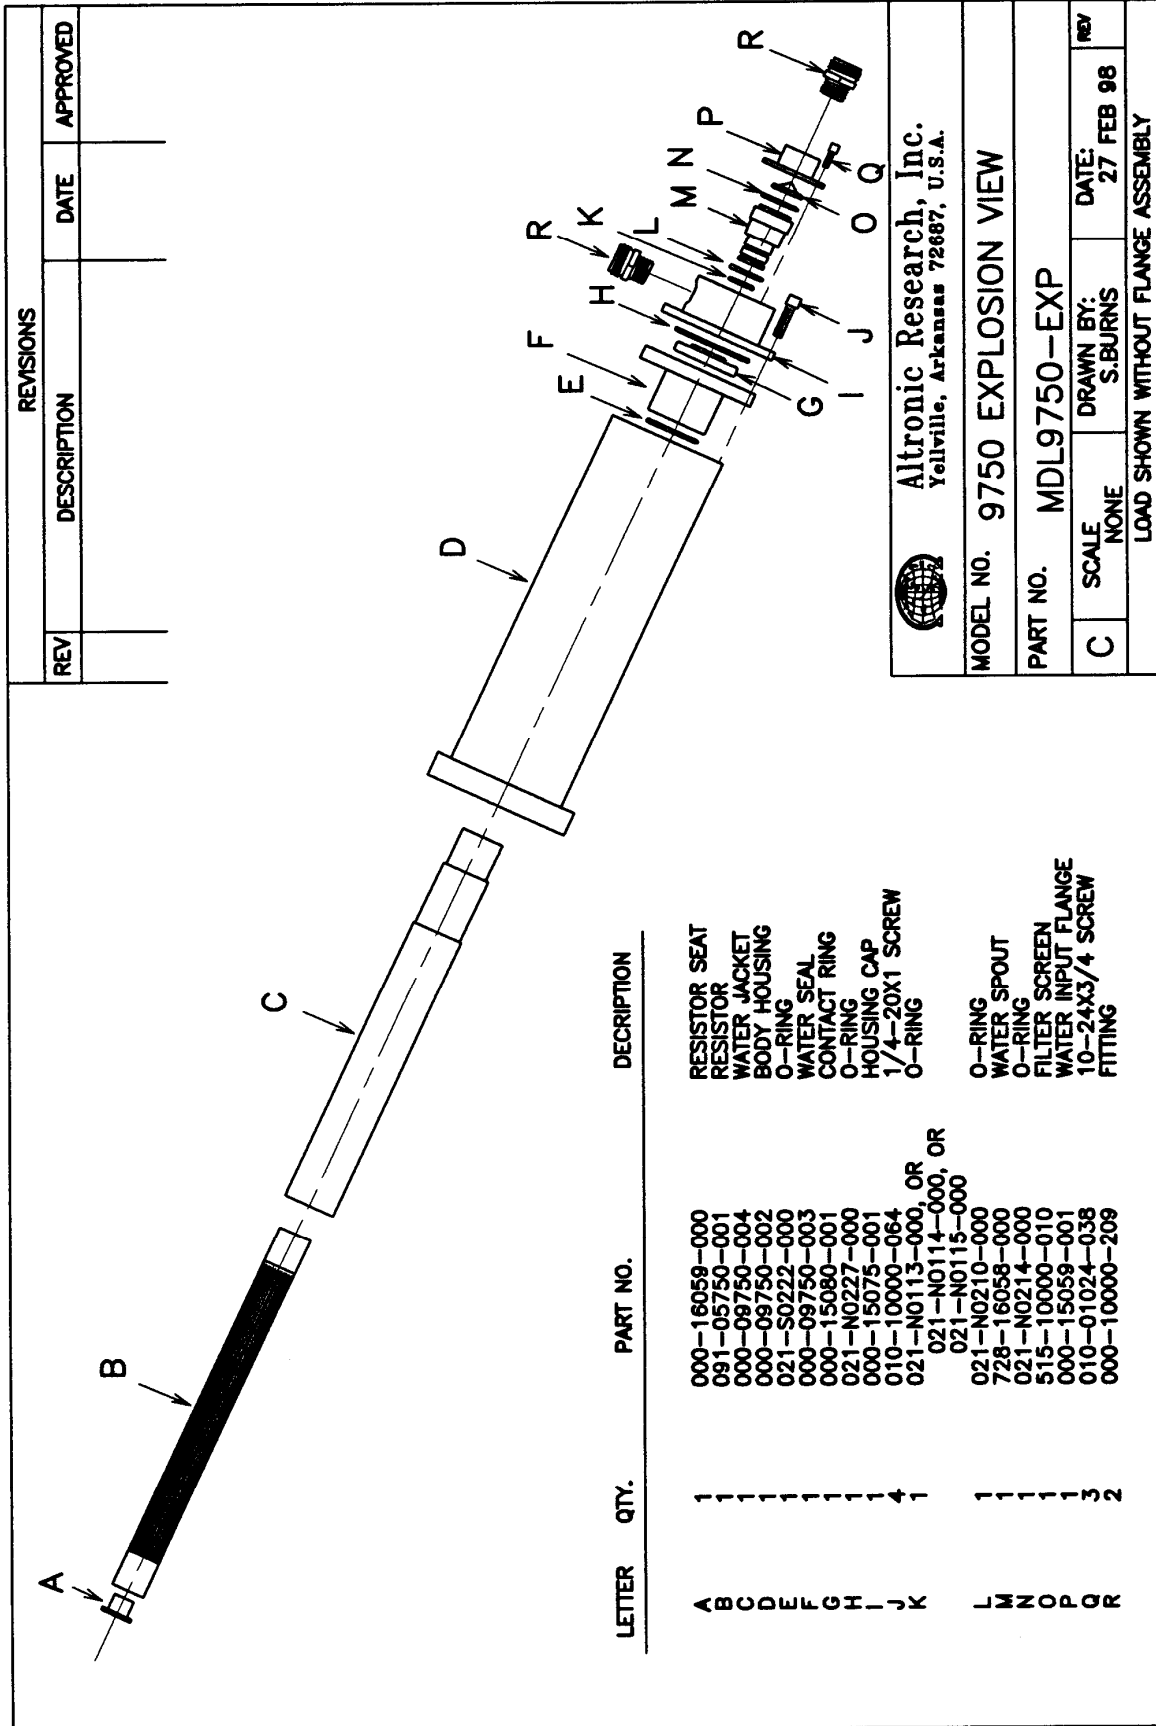
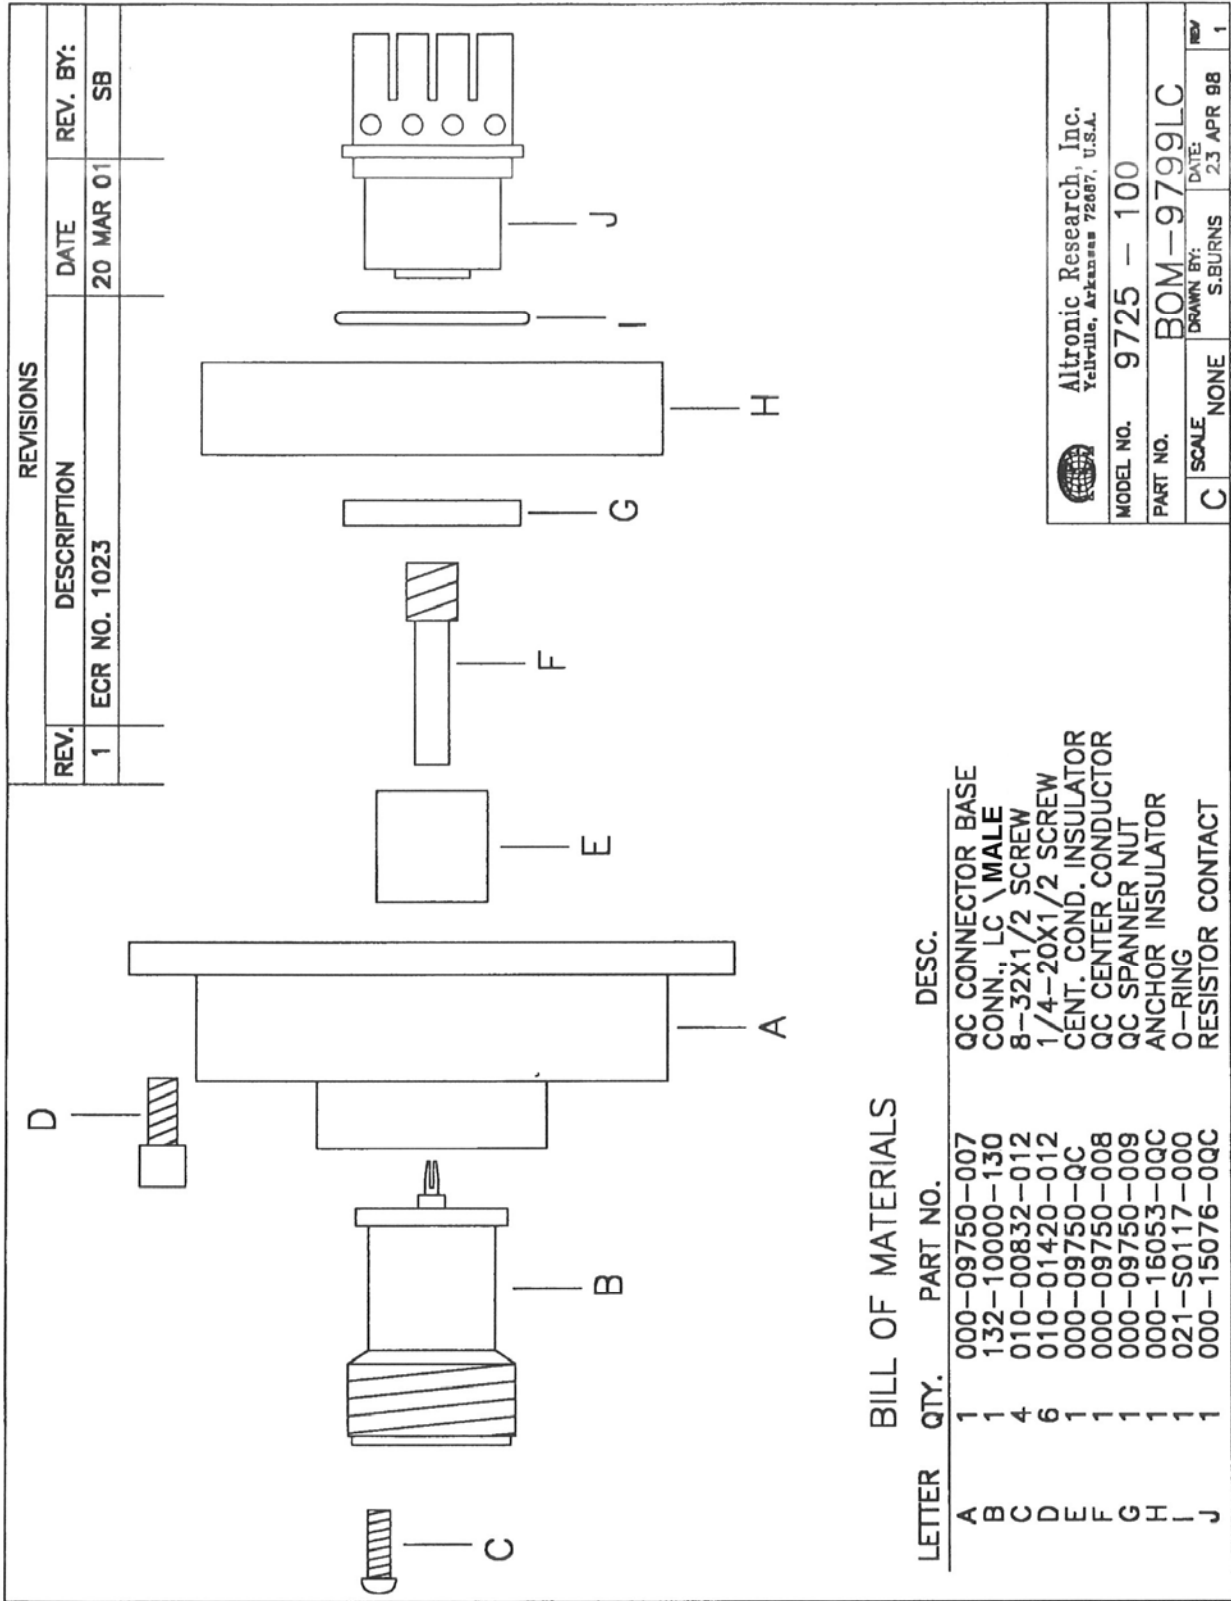

Fig. 14
Fig. 15
4. **Resistor Replacement** - (Refer to Fig. 14) To replace the resistor element, remove the three 10-24x1-3/8" cap screws (item Q). Remove water input assembly (items O, P, and R). Inspect filter screen for damage, replace if eroded or torn. Remove four 1/4-20x1/2 cap screws (item J). Remove housing cap assembly (items G, H, I, R, K, M and N). Inspect all O-rings for distortion or damage. Replace if pinched, cut, burned or no longer round in cross section. Inspect ring contact (item G) for signs of arcing or loss of silver in the area of contact with the resistor contact band. Replace if damage is noted. If
5. **Removal of RF Input** - (Refer to Fig. 15) To remove the Q.C. input connector (item B), remove four 8-32 x 1/2 T-15 torx head screws (item C). To remove the RF input line adaptor flange (item A), remove six 1/4-20x1/2 socket head screws that secures the line adaptor flange to the load body housing (item D, Fig. 14). The RF input assembly consisting of the Q.C. center conductor, anchor insulator and front resistor contact (items E, F, G, H, I, J) will normally remain in the load body. Lift front washer (item E) off Q.C. center conductor (item F). Grasp the Q.C. center conductor by hand and attempt to pull the input assembly out of the load body using slight side to side motion while pulling. If strong resistance is encountered, it may be necessary to chill the load to allow the anchor insulator to shrink away from the load housing. This can be done by placing the load in a freezer, or packing the load in ice for 20 to 30 minutes. Once the anchor insulator has shrunk away from the load housing, the RF input assembly should be easily removed. At this point of disassembly, all components of the load can be inspected or replaced as needed. Reassembly should be done in the reverse order of sequence.